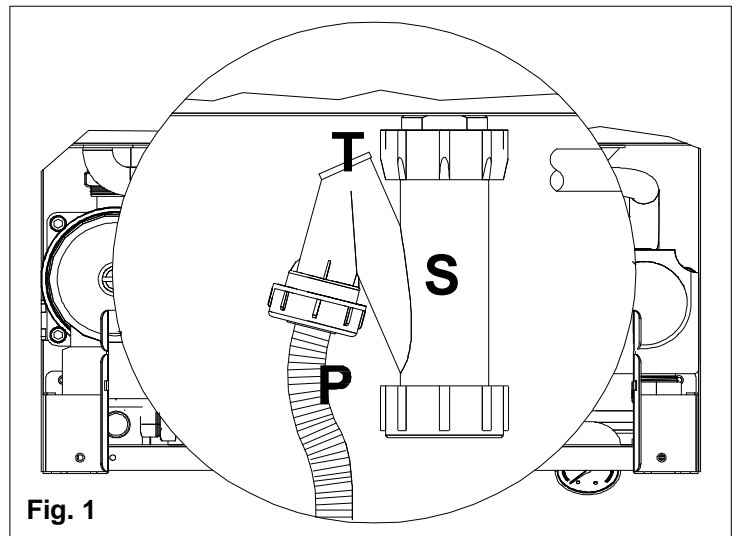

Fig. 1
- Check that the plug of the air vent valve has been slackened slightly to allow air to escape from the system (see fig.1);
The filling operation is carried out as follows (see fig. 1):
- Unscrew the aluminium plug and insert an analyser in the exhaust sampling point **PF** (see fig. 1) to check the CO₂ value. Make sure that the value complies with that reported in table 1;
- If the CO₂ value does not correspond to the specified value, adjust screw **V** (see fig. 1) on the venturi clockwise to reduce the CO₂ value or anticlockwise to increase it;